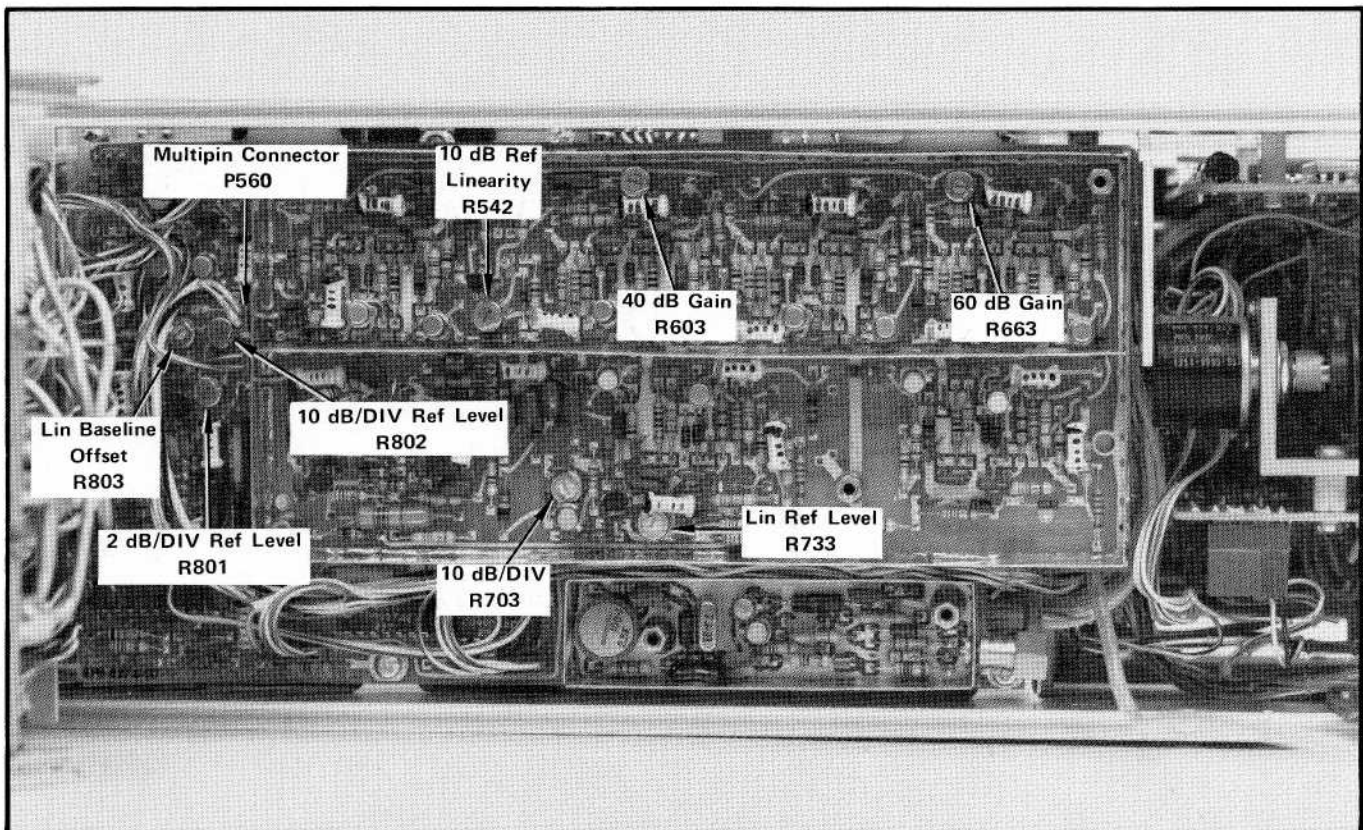

Fig. 4-4. Calibration adjustments and test points on the Function IF board.
Pull the harmonica (multipin) connector P560, on the Function IF circuit board (Fig. 4-4).
b. Adjust the Lin Baseline Offset R803 (Fig. 4-4) clockwise, from a fully ccw position to a point where the trace stops moving down. (Do not adjust past this point).
b. Apply a 10 MHz signal at -10 dBm, from a calibrated signal source, through appropriate adapters (BNC female to SEAELECTRO female, SEAELECTRO male to male adapter, and SEAELECTRO female to harmonica connector) to P560. (Fig. 4-4). Part numbers for these adapters are provided under Equipment Required List. If an accurate 10 dB, 50 Ω step attenuator is available, connect it in series with the signal source.
c. Adjust the 2 dBm/Div Ref Level R801 (Fig. 4-4) so the trace is at the 5th graticule line down from the top.
g. Adjust Lin Ref Level R733 (Fig. 4-4) so the trace is at the top graticule line.
i. Adjust the 10 dB/DIV Ref Level R802, (Fig. 4-4) so the trace is 7 divisions down from the top graticule line.
j. Increase the signal input level so it is -10 dBm. Adjust the trace so it is 1 division from the top graticule line with 10 dB/DIV R703 (Fig. 4-4).
k. Increase the signal level to 0 dBm, then adjust the 10 dB Ref Linearity R542 (Fig. 4-4) so the trace is at the graticule line.
o. Adjust the 40 dB Gain R603 (Fig. 4-4) so the trace is at the reference level or top of the graticule.
r. Adjust the 60 dB Gain R663, (Fig. 4-4) so the trace is at the reference level.